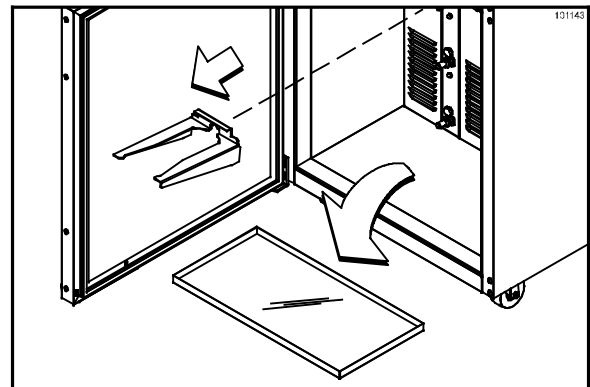

Figure 73
- Remove the product bin shelves and the mix cabinet drip pan. Take them to the 3-compartment sink for cleaning. (See Figure 73.)